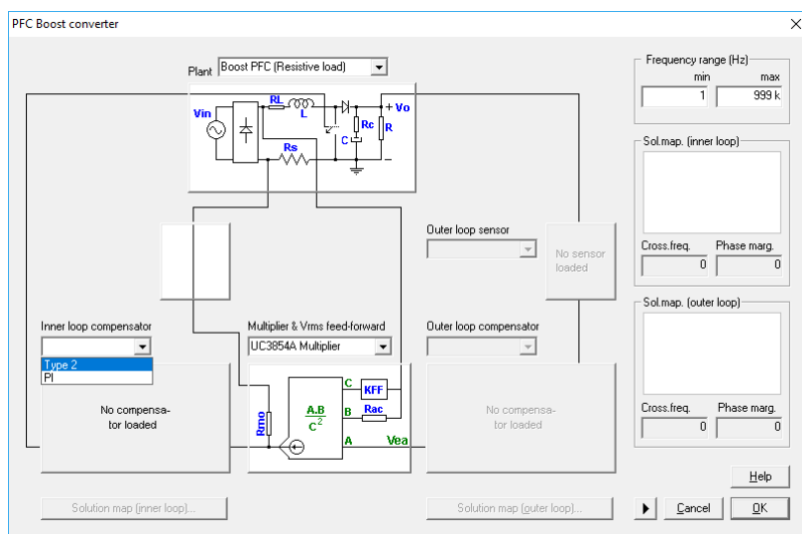
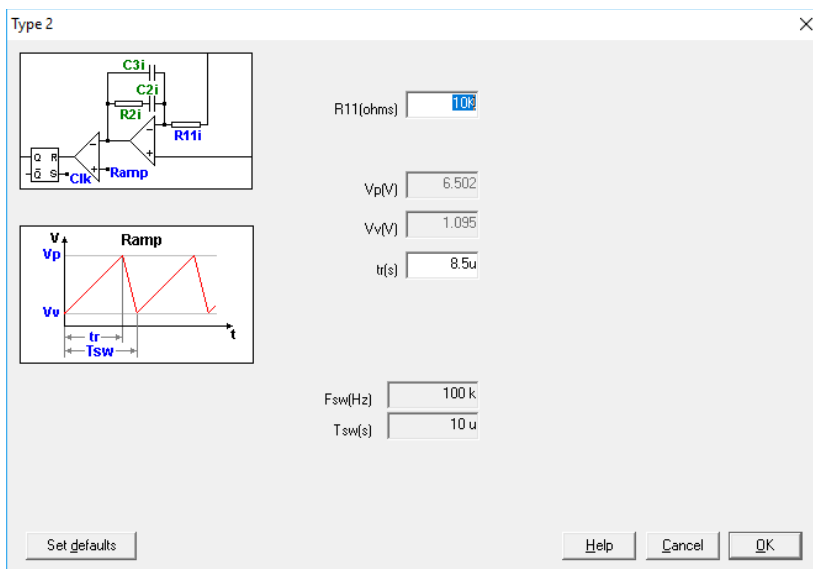

Figure 9: Select a Type 2 for inner loop regulation
Figure 10: Type 2 parameters
2. Select a Type 2 as the current regulator as done in Figure 9 and configure it as it has been done in Figure 10.
It is necessary to know the ramp waveform (Figure 10) in order to specify the parameters V_p (maximum voltage), V_v (minimum voltage) and t_r (rise time). These parameters configure the converter modulator whose gain is important in the inner loop calculation.